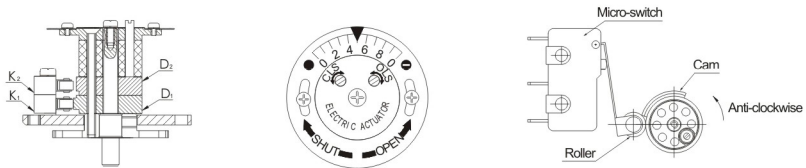
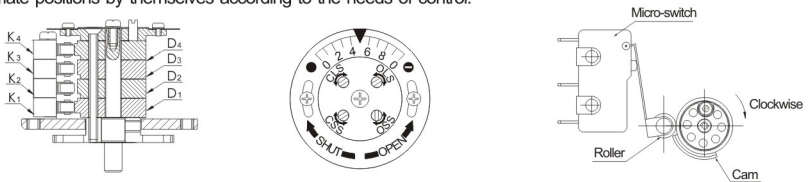

Fig. 5
Fig. 8
3、 Adjustment of Travel Switch (Electric Protection), refer to Fig. 5
5、 Adjustment of intermediate position switch (Fig. 8)
- 4) With the correct adjustment mentioned above, if the positions of the indication pointer and the valve are found not in the positions they should be, (mostly due to position deviation of valve shaft and coupling during processing) please loose the screws at the two ends of scale plate shown in Fig. 5 and Fig. 8, turn the scale plate to the corrected indication positions and fix the screws. (Note: not to loose the pointer)